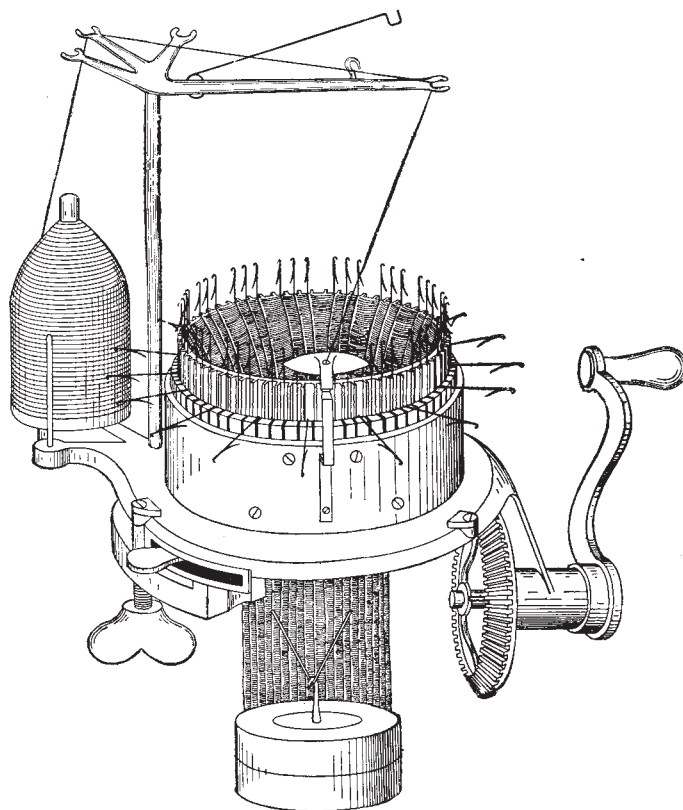

Fig. 124. Needles Tipped Down.
**To Knit Rib Tops Without Removing the Needles.** Before setting up the work lift up every fourth needle and tip it over at right angles with the cylinder, as shown in Fig. 124. The yarn carrier arm passes over these needles without operating them. Set up the work as previously instructed and knit the length of top desired. Then tip up and push down into the cylinder those needles that are away from the cams and yarn carrier, after which turn the machine forward and tip up and push down into the cylinder the rest of the needles. Then proceed with the knitting.